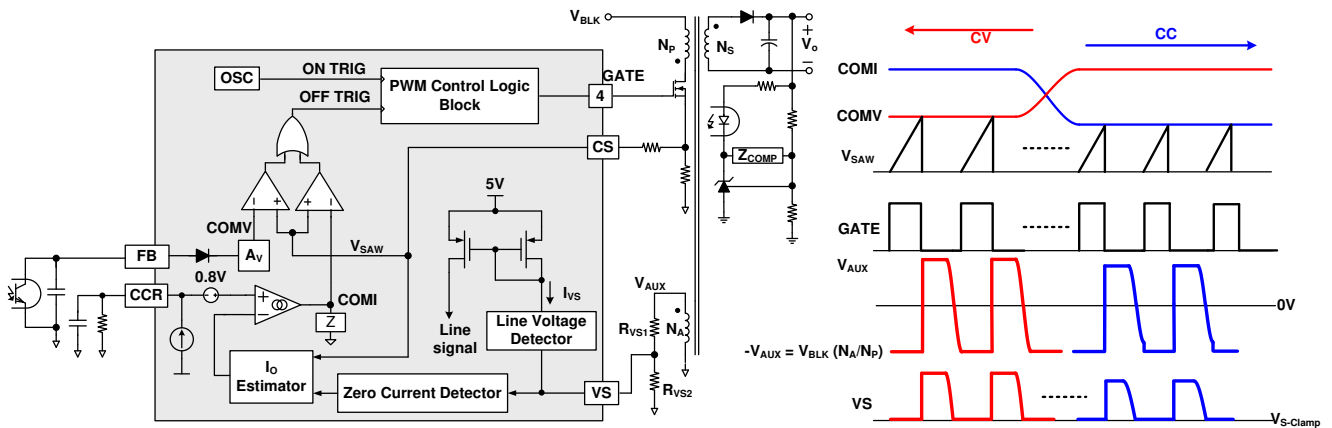

Figure 27 Simplified PWM Control Circuit and PWM Operation for CV/CC Regulation
The FAN604H indirectly senses the line voltage through the VS pin while the MOSFET is turned on, as illustrated in Figure 27. During MOSFET turn-on period, the auxiliary winding voltage,  $V_{AUX}$ , is proportional to the input bulk capacitor voltage,  $V_{BLK}$ , due to the transformer coupling between the primary and auxiliary windings. During the MOSFET conduction time, the line voltage detector clamps the VS pin voltage to  $V_{S-Clamp}$  ( $0 V$ ), and then the current  $I_{VS}$  flowing out of VS pin is expressed as:
Figure 27 shows a simplified CV / CC PWM control circuit of the FAN604H. The Constant Voltage (CV) regulation is implemented in the same manner as the conventional isolated power supply, where the output voltage is sensed using a voltage divider and compared with the internal reference of the shunt regulator to generate a compensation signal. The compensation signal is transferred to the primary side through an opto-coupler and scaled down by attenuator  $A_V$  to generate a COMV signal. This COMV signal is applied to the PWM comparator to determine the duty cycle.
These two control signals, COMV and COMI, are compared with an internal sawtooth waveform ( $V_{SAW}$ ) by two PWM comparators to determine the duty cycle. Figure 27 illustrates the outputs of two comparators, combined with an OR gate, to determine the MOSFET turn-off instant. Either of COMV or COMI, the lower signal determines the duty cycle. During CV regulation, COMV determines the duty cycle while COMI is saturated to HIGH level. During CC regulation, COMI determines the duty cycle while COMV is saturated to HIGH level.
Where Lm is the transformer's primary side magnetizing inductance. Since the output current error is proportional to the line voltage, the FAN604H incorporates line voltage compensation to improve output current estimation accuracy. Line information is obtained through the line voltage detector as shown in Figure 27. ICOMP is an internal current source, which is proportional to line voltage. The line compensation gain is programmed by using CS pin series resistor, RCS\_COMP, depending on the MOSFET turn-off delay, tOFF\_DLY. ICOMP creates a voltage drop, VOFFSET, across RCS\_COMP. This line compensation offset is proportional to the DC link capacitor voltage, VBLK, and turn-off delay, tOFF\_DLY. Figure 29 demonstrates the effect of the line compensation.